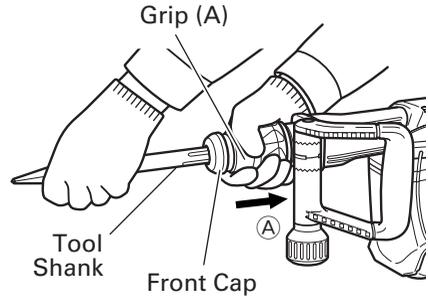
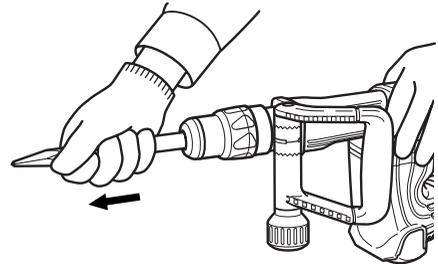

Fig. 2
Fig. 3
- (1) Clean the shank portion of the tool.
- (2) As shown in Fig. 2, pull grip (A) in the direction of (A), and insert the tool into a hole of the front cap.
- (3) Adjust the groove position while turning the tool, and furthermore insert it until it hits the end of the hole.
- (4) Return grip (A) to its original position, pull the tool to make sure it is locked completely. (Fig. 3)
As shown in Fig. 2, pull grip (A), and pull out the tool.